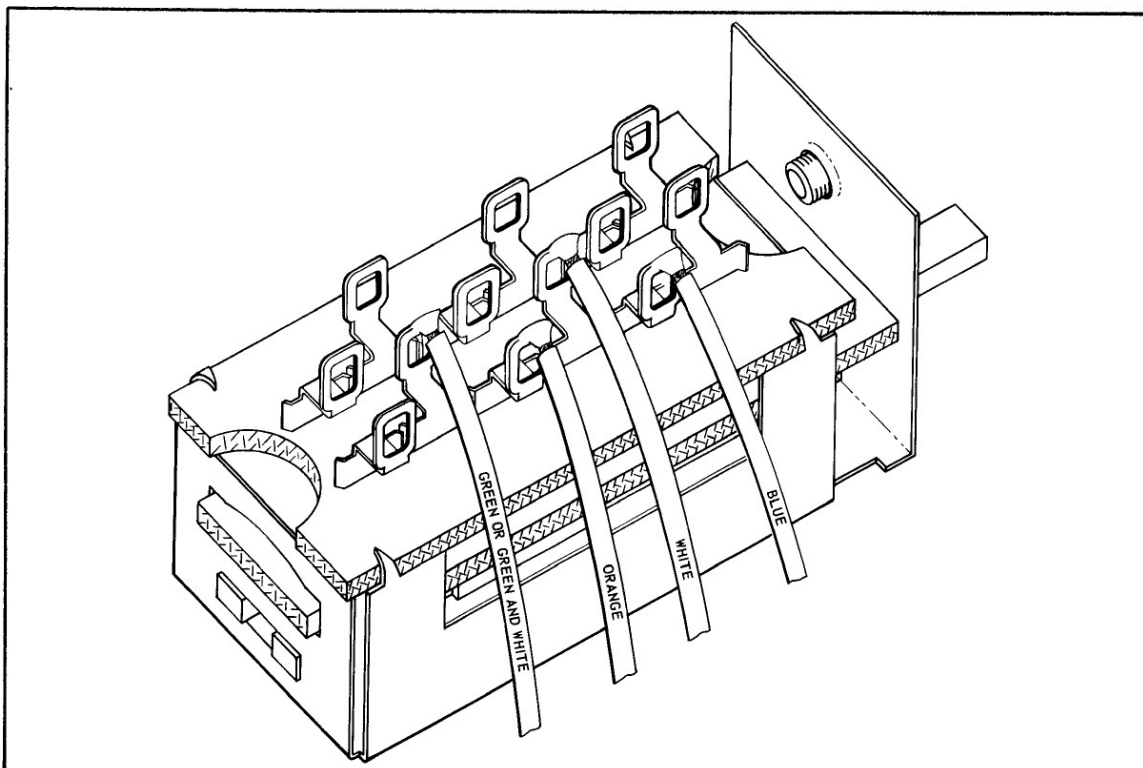

Figure 12-2. Replacement of AutoControl III Heading Switch
4. Make sure that all the wires on the switch are the same color as those shown in Figure 12-2. If not, identify any wires which are different. Remove all wires from the switch.